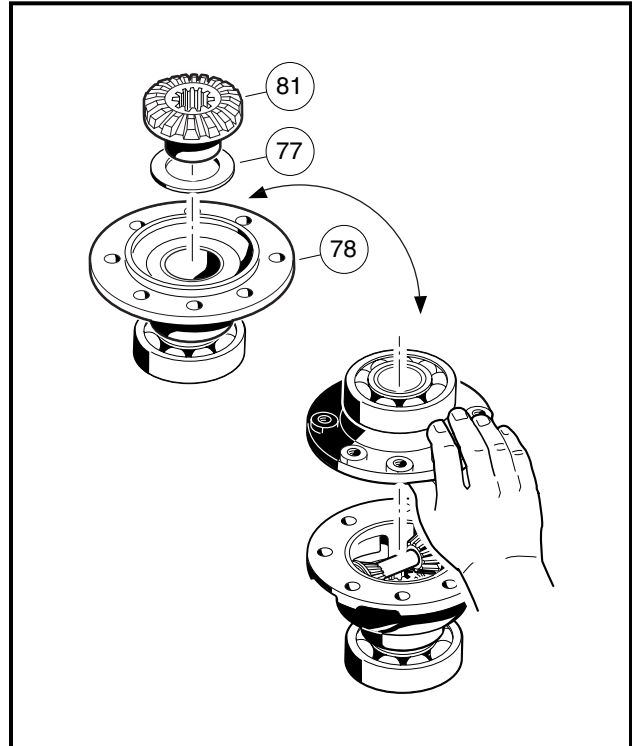

Figure 5-36 Carrier Case
5. Install the thrust plate (77) and differential gear (81) into the carrier case cover (78) (**Figure 5-36, Page 5-20**). Hold the thrust plate and differential gear in place and position the carrier case cover on the carrier case.